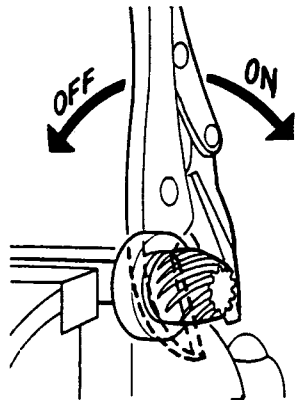

FIG 55
2. To remove pinion, grip shaft just behind bearing in jaws of vice (Fig. 55) and unscrew pinion counter (anti) clockwise (normal thread) with vice grips. If tight, heat to break loctite seal.